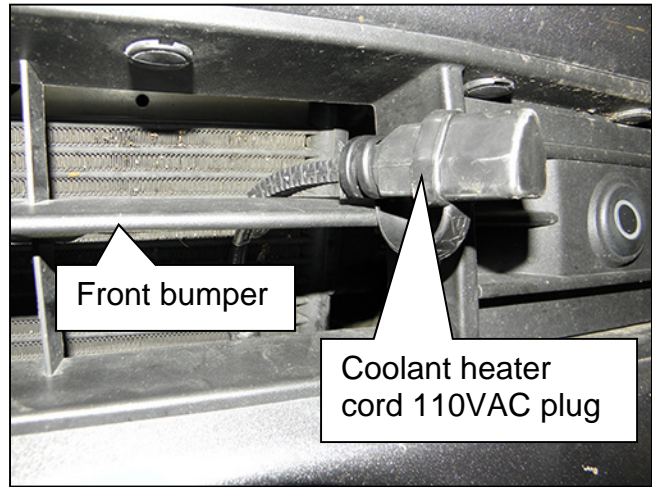

Figure 11
7. Route the coolant heater cord 110VAC plug through the front bumper as shown in Figure 11.